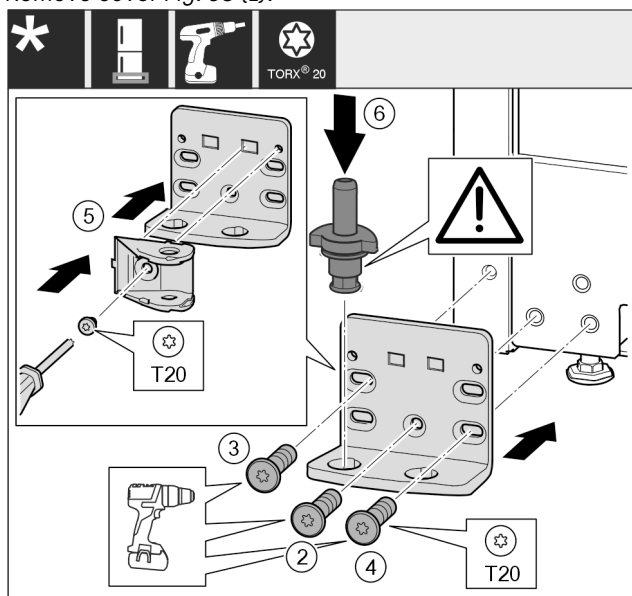

Fig. 39
- Place the swap bearing block on the other side and use a screwdriver to screw it on. Start with the screw Fig. 39 (2) at the bottom in the middle.
- Tighten screw Fig. 39 (3) and screw Fig. 39 (4).
- Turn the closing damper connection Fig. 39 (5) by 180°. Use screwdriver to screw it onto the other side of the swap bearing block.
- Insert the bearing bolt Fig. 39 (6) completely. Ensure that the latching cam is pointing towards the rear.